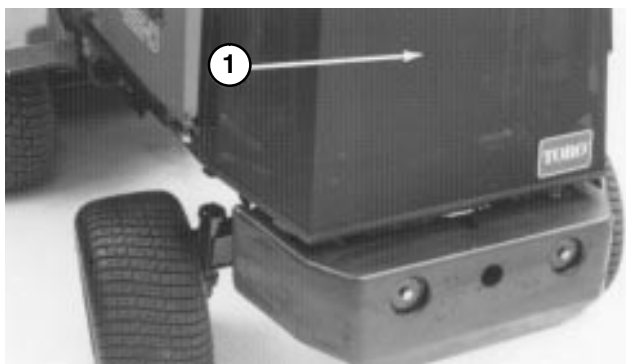

Figure 44
ENGINE COOLING SYSTEM (Fig. 44–45)
B. Unscrew knobs and remove rear screen (Fig. 44). Clean screen thoroughly.